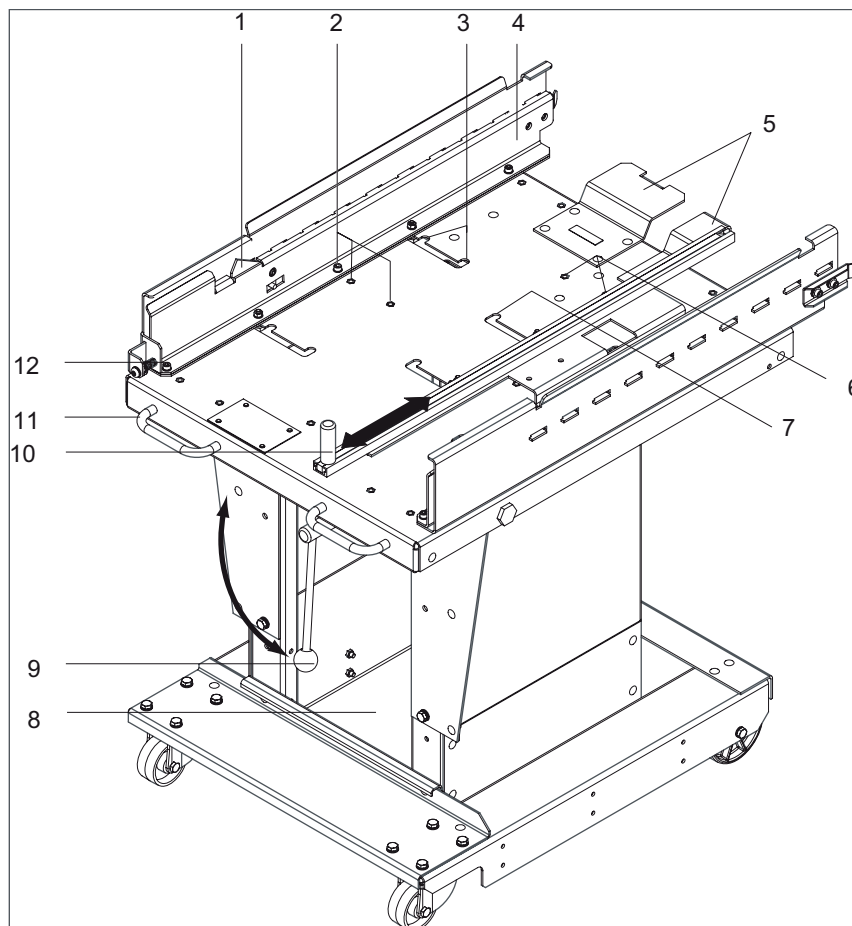

Figure 80
1. Release 3 screws on each track (Figure 80, 2).
3. Adapt position of unlocking bar (10) also to the appropriate panel (same procedure).